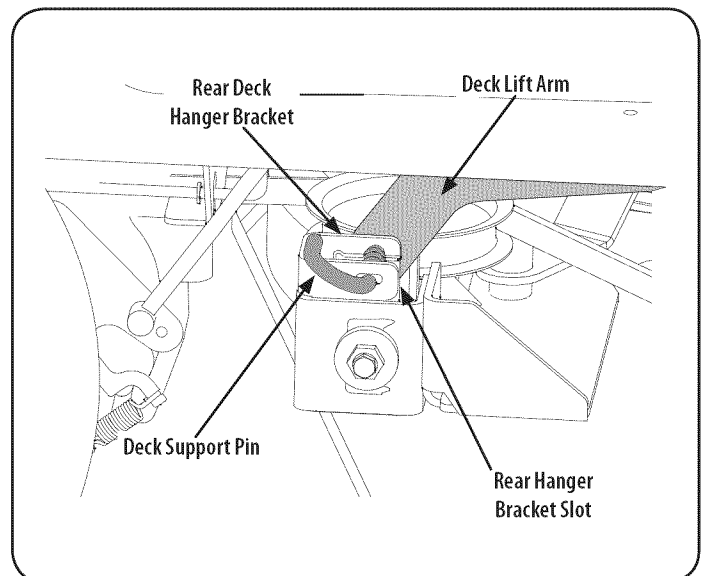

Figure 41
8. Locate the LH and RH deck support pins on each side of the deck. Pull the deck support pins outward and lock in the disengaged position to release the deck from the riding mower's LH and RH deck lift arms. Refer to Figure 41.
9. Raise the deck lift arms out of the rear hanger bracket slots by raising the deck lift handle on the riding mower to its highest position. Refer to Figure 41.
- Maneuver the deck so that the slots in the two rear deck hanger brackets approximately align with the deck lift arms of the riding mower. Refer to Figure 41.
- Pull the deck support pins outward and maneuver the deck as necessary to align the holes in the deck lift arms with the pins. Refer to Figure 41.